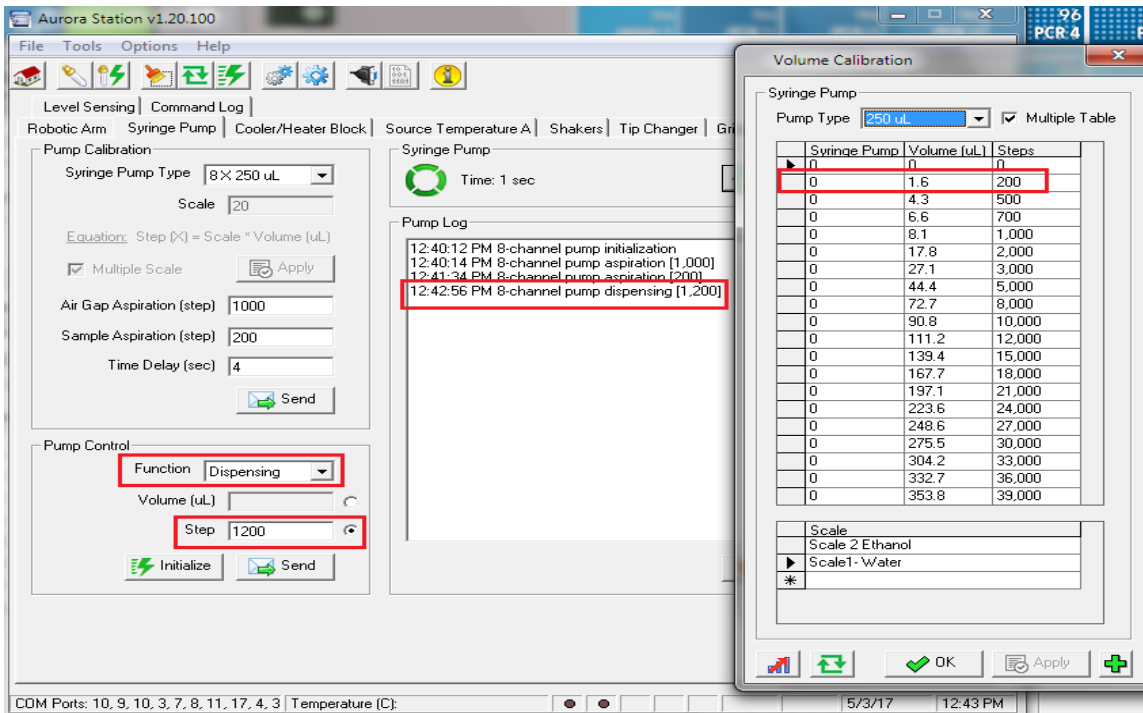

Figure 9-49 Syringe Pump
- 3 Next tare a weigh boat on a scale. In the software, click “dispensing” and enter the 1200 steps (1000 air-gap +200 aspiration volume steps = 1200steps) and click send and collect the volume in the pre- tared weigh boat (*Figure 9-49 Syringe Pump*).Weigh the collected sample and enter the weight (if different than the previous value) in the volume section of the calibration data table.